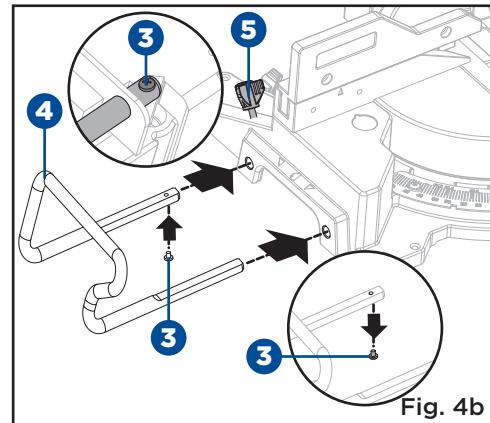

Fig. 4b
- Loosen the screw (3) on the end of left extension rail (4) with star-head screwdriver (not supplied). (Fig. 4b)
- Loosen the extension rail lock knob (5) on the back of the saw.
- Slide one extension rail (4) into the holes on the base, and tighten the lock knob and screw.